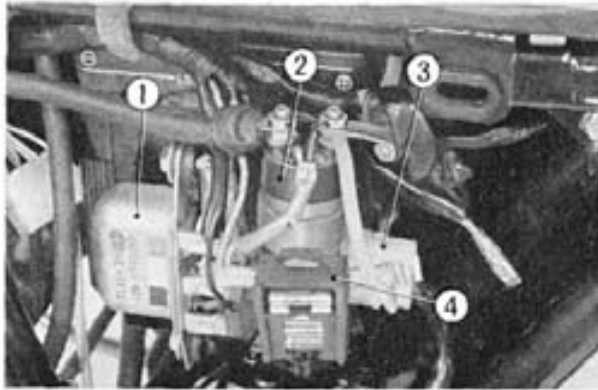

Fig. 16-27 ① Regulator
② Starter magnetic switch
③ Rectifier connector
④ Fuse case
9. Remove the battery cover, and then remove the following parts; regulator, starter magnetic switch, rectifier connector, fuse case and signal stat. (Fig. 16-27)